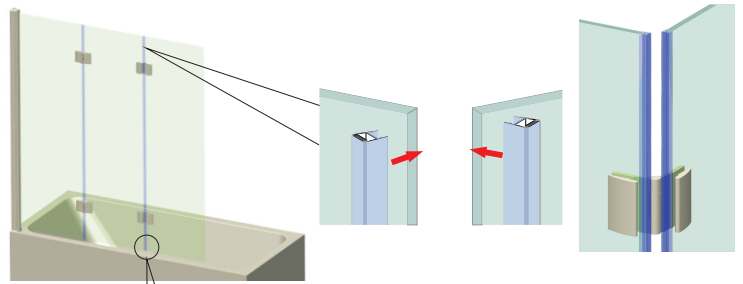

FIG 8
8. Position moving panel at 90 degrees to the fixed panel. Starting at the bottom push on magnet seals fully. Open the moving panel and ensure both seals meet fully and provide a complete seal. If there is a gap push both seals together. **Fig 8.**